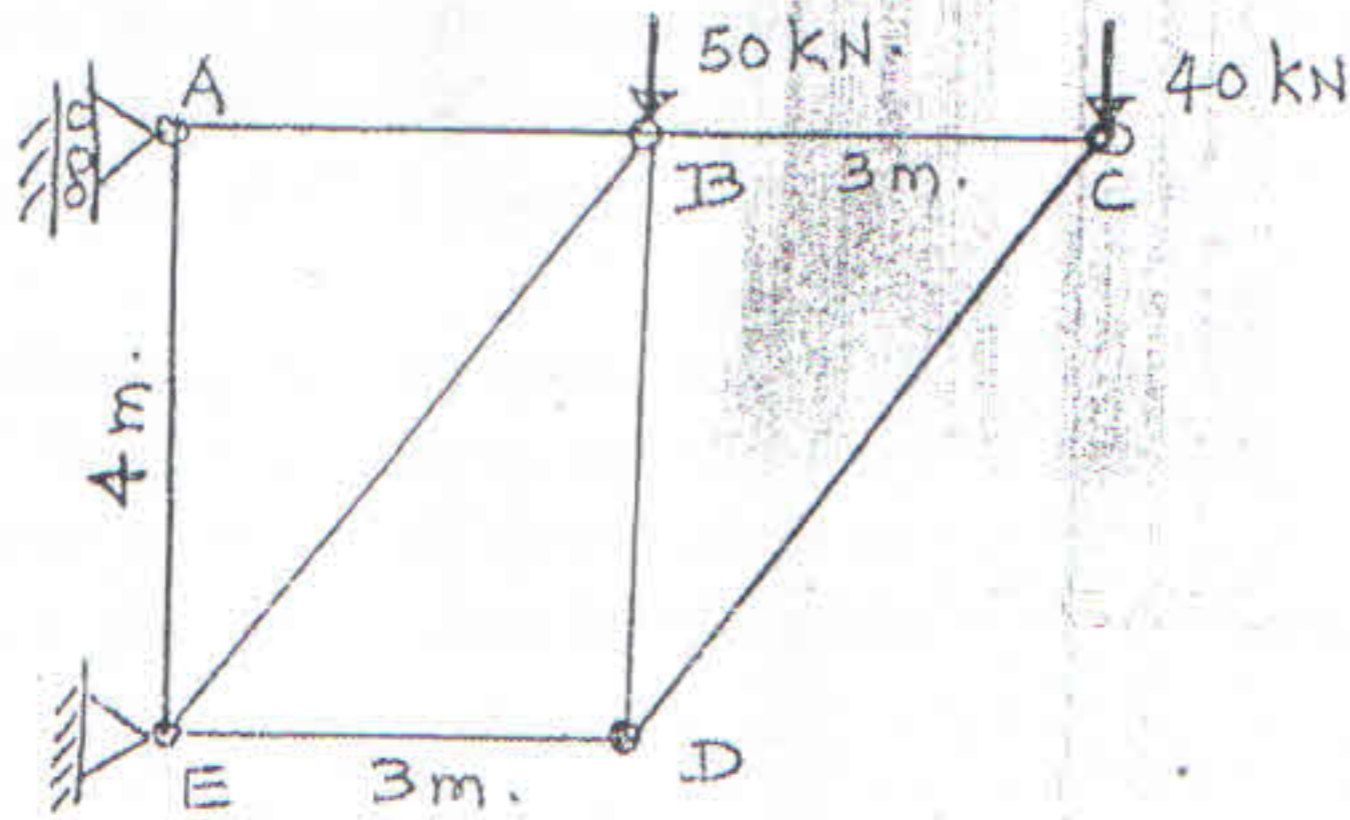

Fig. 11
6. (a) Using Unit Load Method, find the vertical deflection of joint (C) of a pin-jointed plane truss (Fig. 11). Area of C/S of each member = 1100 mm^2 and $E = 2.1 \times 10^5 \text{ MPa}$. 7